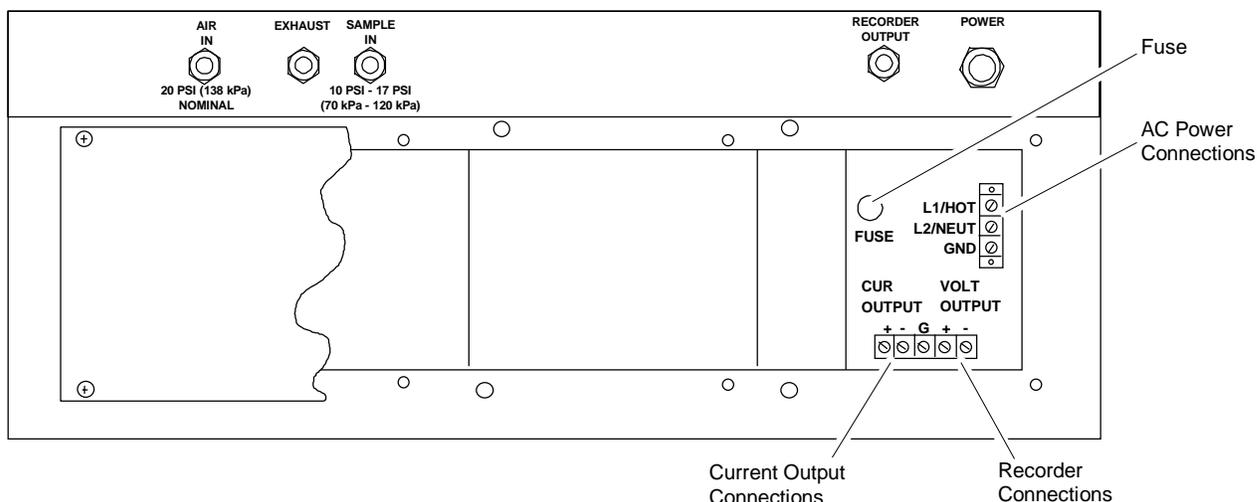

FIGURE 2-4. REAR VIEW OF MODEL 951C (COVER REMOVED)
Refer to Figure 2-4. Remove the 6.25 A fuse (P/N 902413) and replace with the 3.15 A fuse (P/N 898587) provided in the shipping kit.
1. Remove plugs and caps from all inlet and outlet fittings. (See Figure 2-4.)
The ozone-producing UV lamp will not ignite or stay lit unless adequate air pressure is present at the AIR inlet (see Figure 2-4). Nominal set point pressure is 20 to 25 psig.